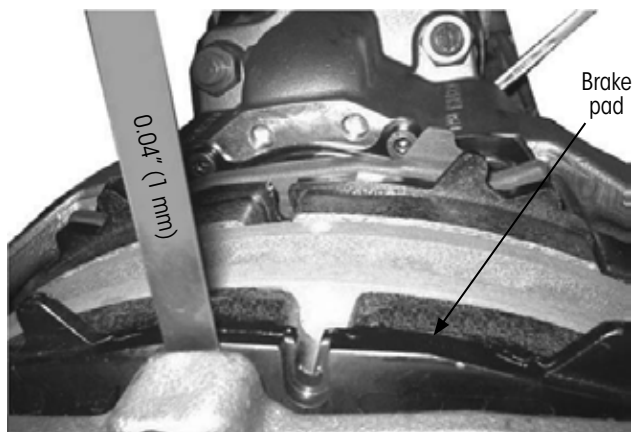

Figure 37: Checking brake pad clearance
8. **Measure and adjust** the clearance using a 0.04" (1 mm) feeler gauge (Figure 37):
- A. **Insert** the feeler gauge between the outboard brake pad and the brake caliper as shown in Figure 37.